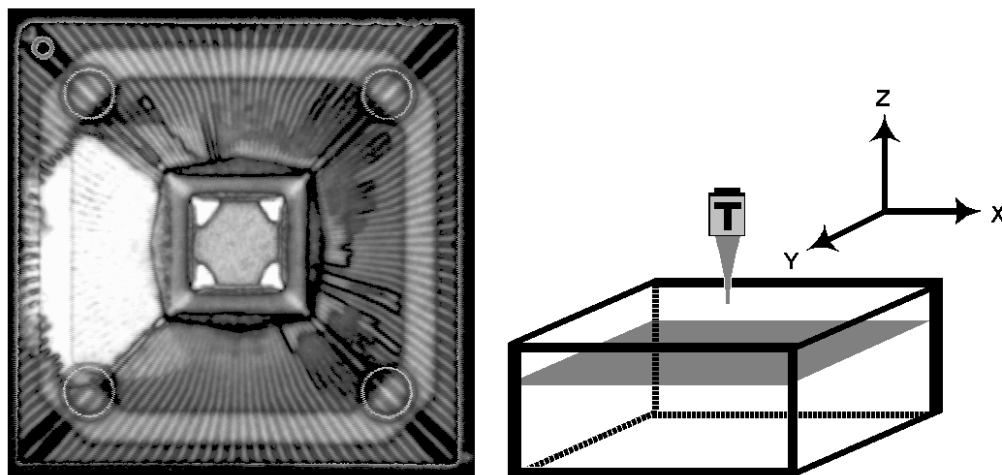

Figure 3 — Example of C-mode Display
C-mode - Acoustic data collected in an X-Y plane at depth (Z) using a reflective acoustic microscope. A C-mode scan contains amplitude and phase/polarity information at each point in the scan plane. A C-mode scan furnishes a two-dimensional (area) image of echoes arising from reflections at a depth (Z). See Figure 3.